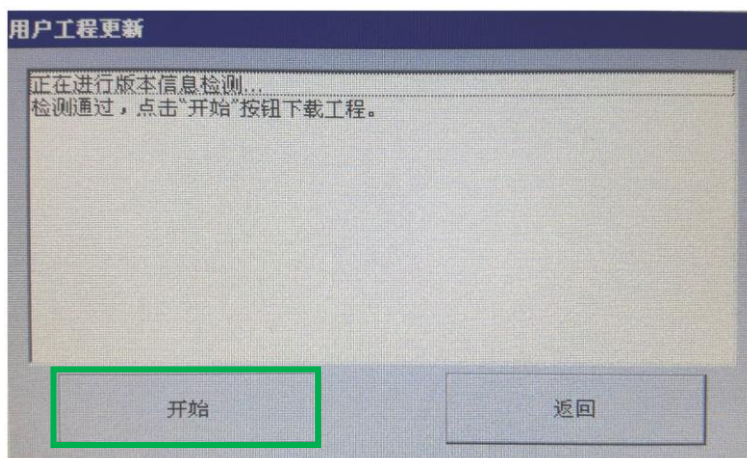

Fig. 4
6. In the following window, press the button on the left (Fig. 4):